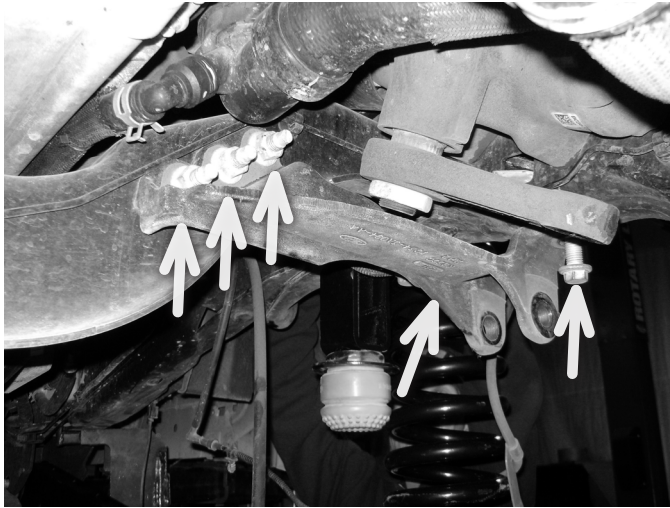

Figure 8
13. Disconnect the steering drag link from the pitman arm. Remove the cotter pin and castellated nut cap. Remove the nut and thread back on by hand a couple turns. Strike the end of the pitman arm near the drag link end to dislodge the taper from the pitman arm. **Figure 8** Remove the nut and the drag link from the pitman arm. Save all hardware.